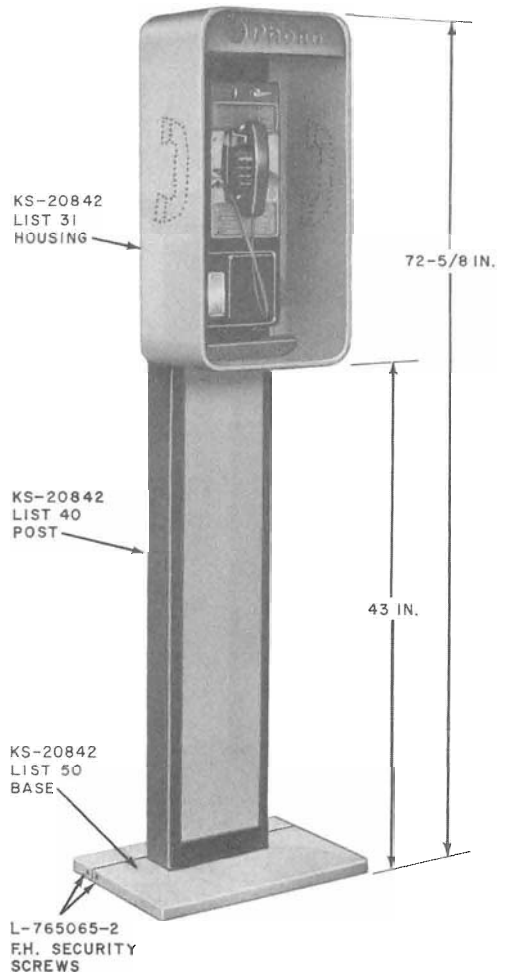

Fig. 1—KS-20842, List 5 Telephone Mounting
**2.01** The KS-20842 mounting (Fig. 1 and 2) consists of a post, a shelf or housing, and a base. Refer to Table A for the various combinations of the shelf, housing, and base that may be used with the post to make up the different mounting assemblies.
**2.04** The List 40 post (Fig. 1) is common to each of the mounting assemblies. The post is approximately 5-1/2 feet high, 10 inches wide, and 4 inches deep. A black textured vinyl finish covers the 3/16-inch thick steel unit.
**2.10** *List 50 regular base* (Fig. 1) is 20 inches long, 14 inches wide, 7/8-inch thick, and weighs approximately 70 pounds. Ten holes are provided for securing the base to a mounting surface. Two aluminum covers protect the mounting hardware and provide a finished appearance. The regular base is used in all pedestal installations except next-to-wall or back-to-back installations.
**2.13** An aluminum housing, 14-5/8 inches wide, 9-1/2 inches deep, 29-1/2 inches high, and 1/4-inch thick, is provided for indoor and outdoor use. The housing mounts on top of post (Fig. 1) and may be installed or replaced without removing the telephone or interrupting the telephone service.